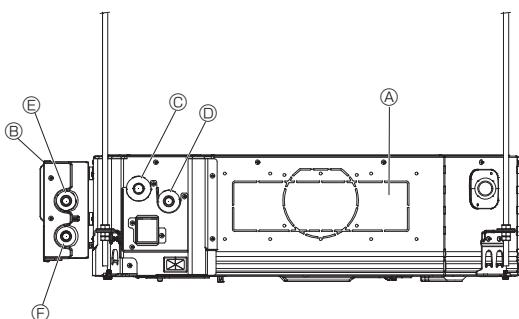

Fig. 4-10
1. Connect outlet pipe Ⓛ of the indoor unit to inlet pipe Ⓜ of the VALVE KIT with Ø22 piping (procured locally). (Fig. 4-10)